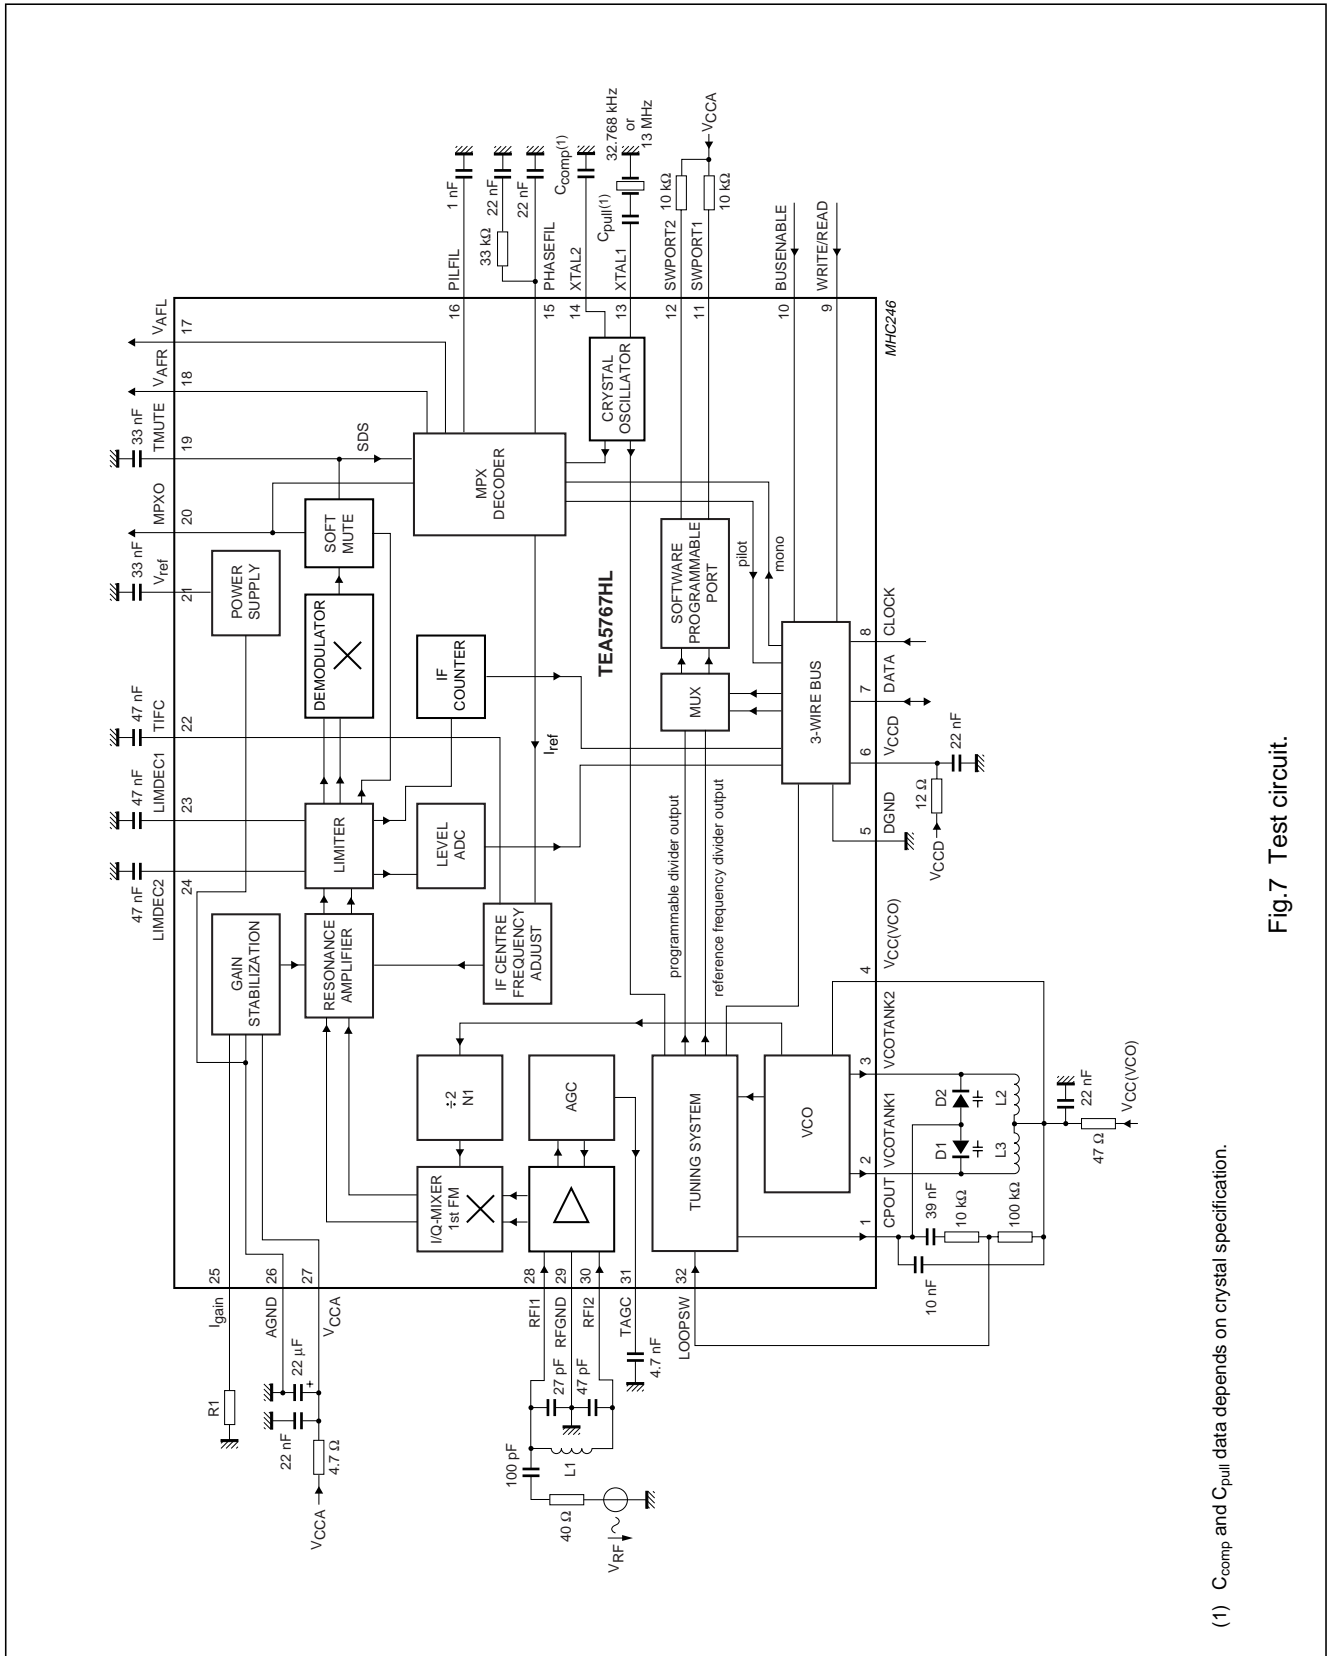

Fig.7 Test circuit.
- V_{RF} in Fig.7 is replaced by $V_{RF1} + V_{RF2}$. The radio is tuned to 98 MHz (HIGH side injection).